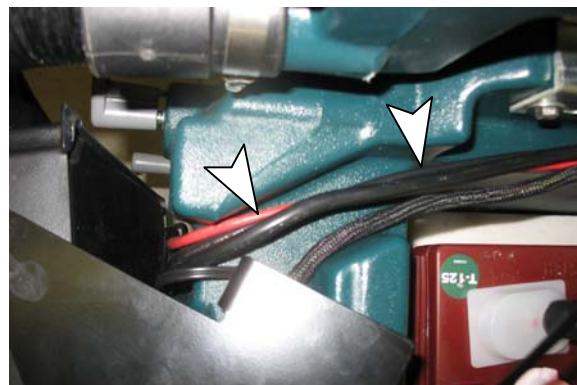

Fig. 2
2. Route the charger's AC cord up and through the channel behind the charger and into the battery compartment (Figure 2).